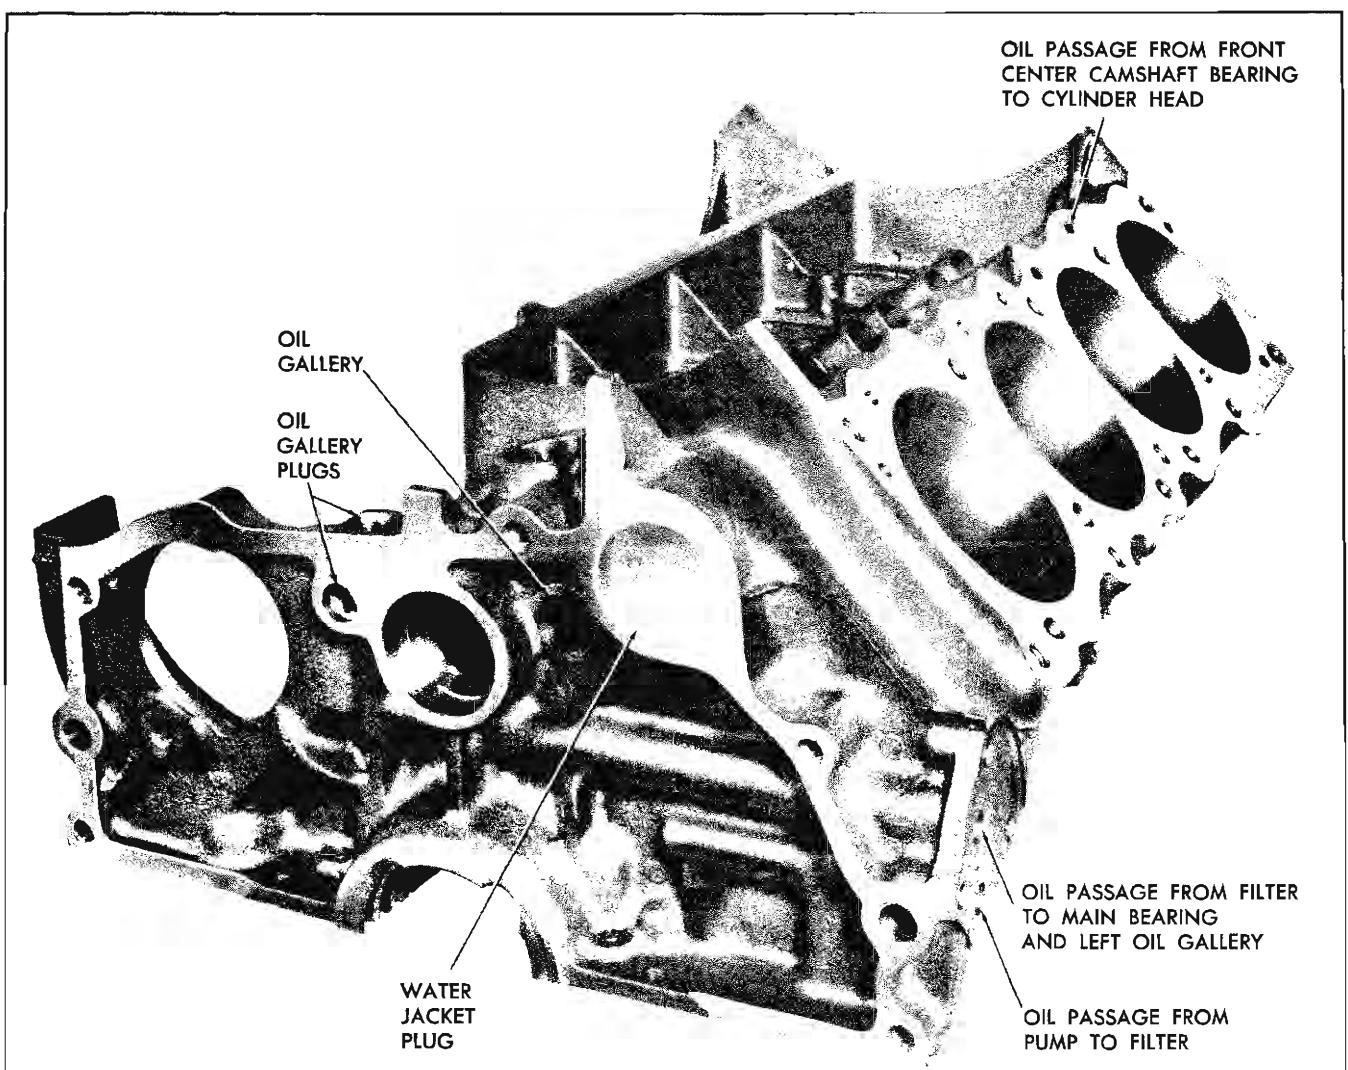

Fig. 6-70 Cylinder Block—View from Right Rear—4 Cylinder Engine
- f. Visually check passage from rear center cam-shaft bearing to left cylinder head (V-8 only) and passage from front center cam-shaft bearing to right cylinder head (Fig. 6-70 and 6-73).